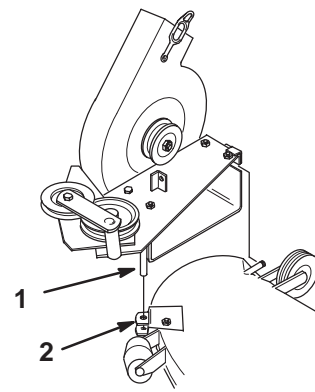

Figure 34
3. Remove the blower by lifting the pivot pin out of the pivot support (Fig. 34).